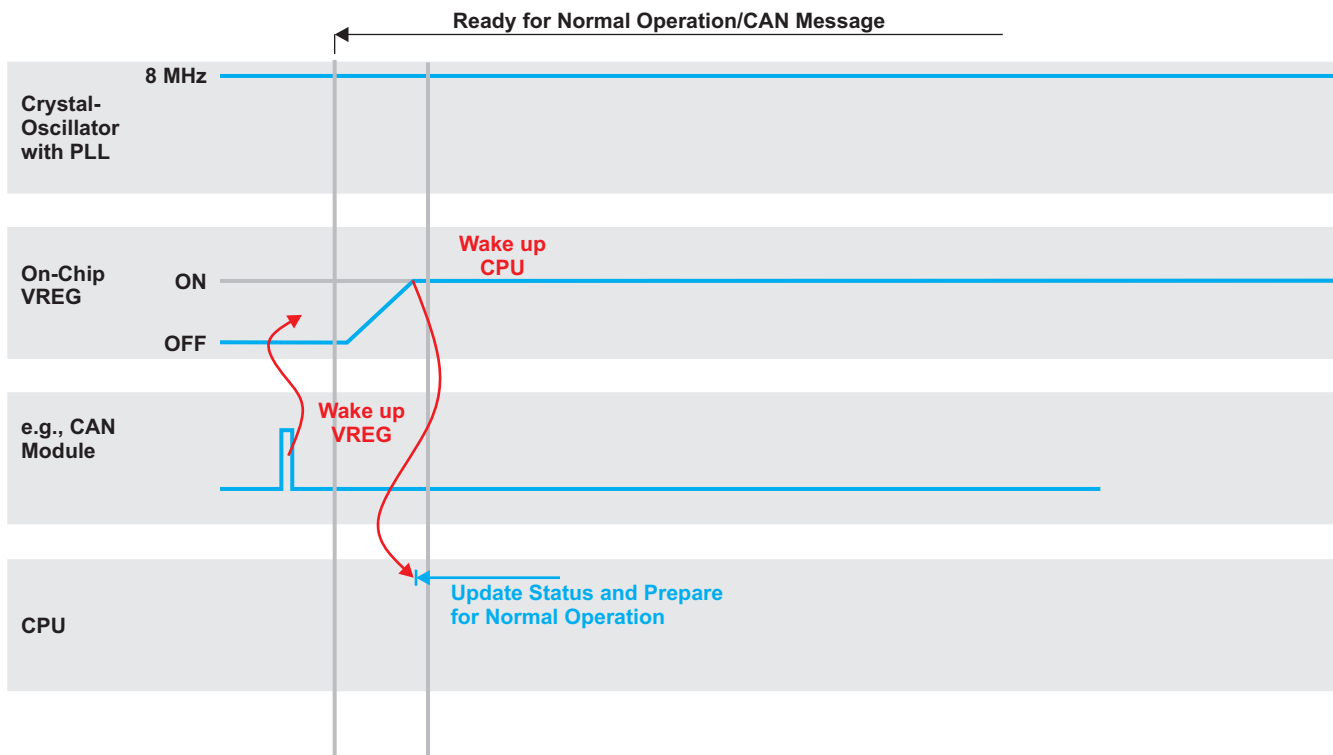

Figure 5-3. Wake Up From Doze Mode
1. Wake-up request is received/generated. Figure 5-3 shows the CAN module generating the wakeup interrupt.